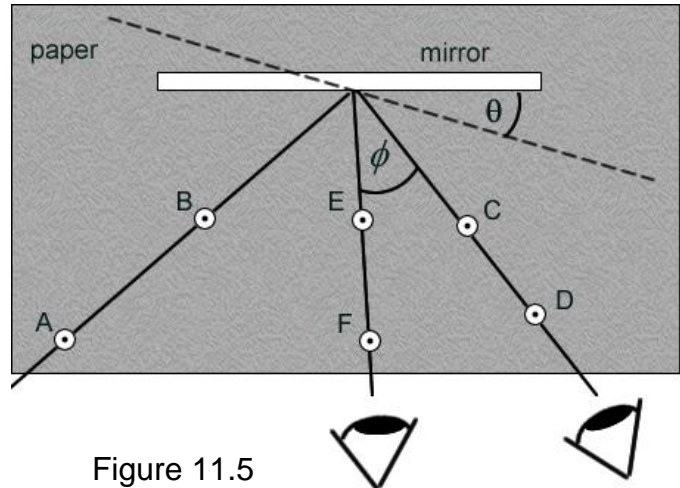

Figure 11.5
2. Stick two pins (A and B) in the board to one side and in front of and in line with the center of the mirror as in Figure 11.5. Viewing the aligned images of these pins from the other side of the paper, place two more pins (C and D) in alignment. Label the locations of the pins.